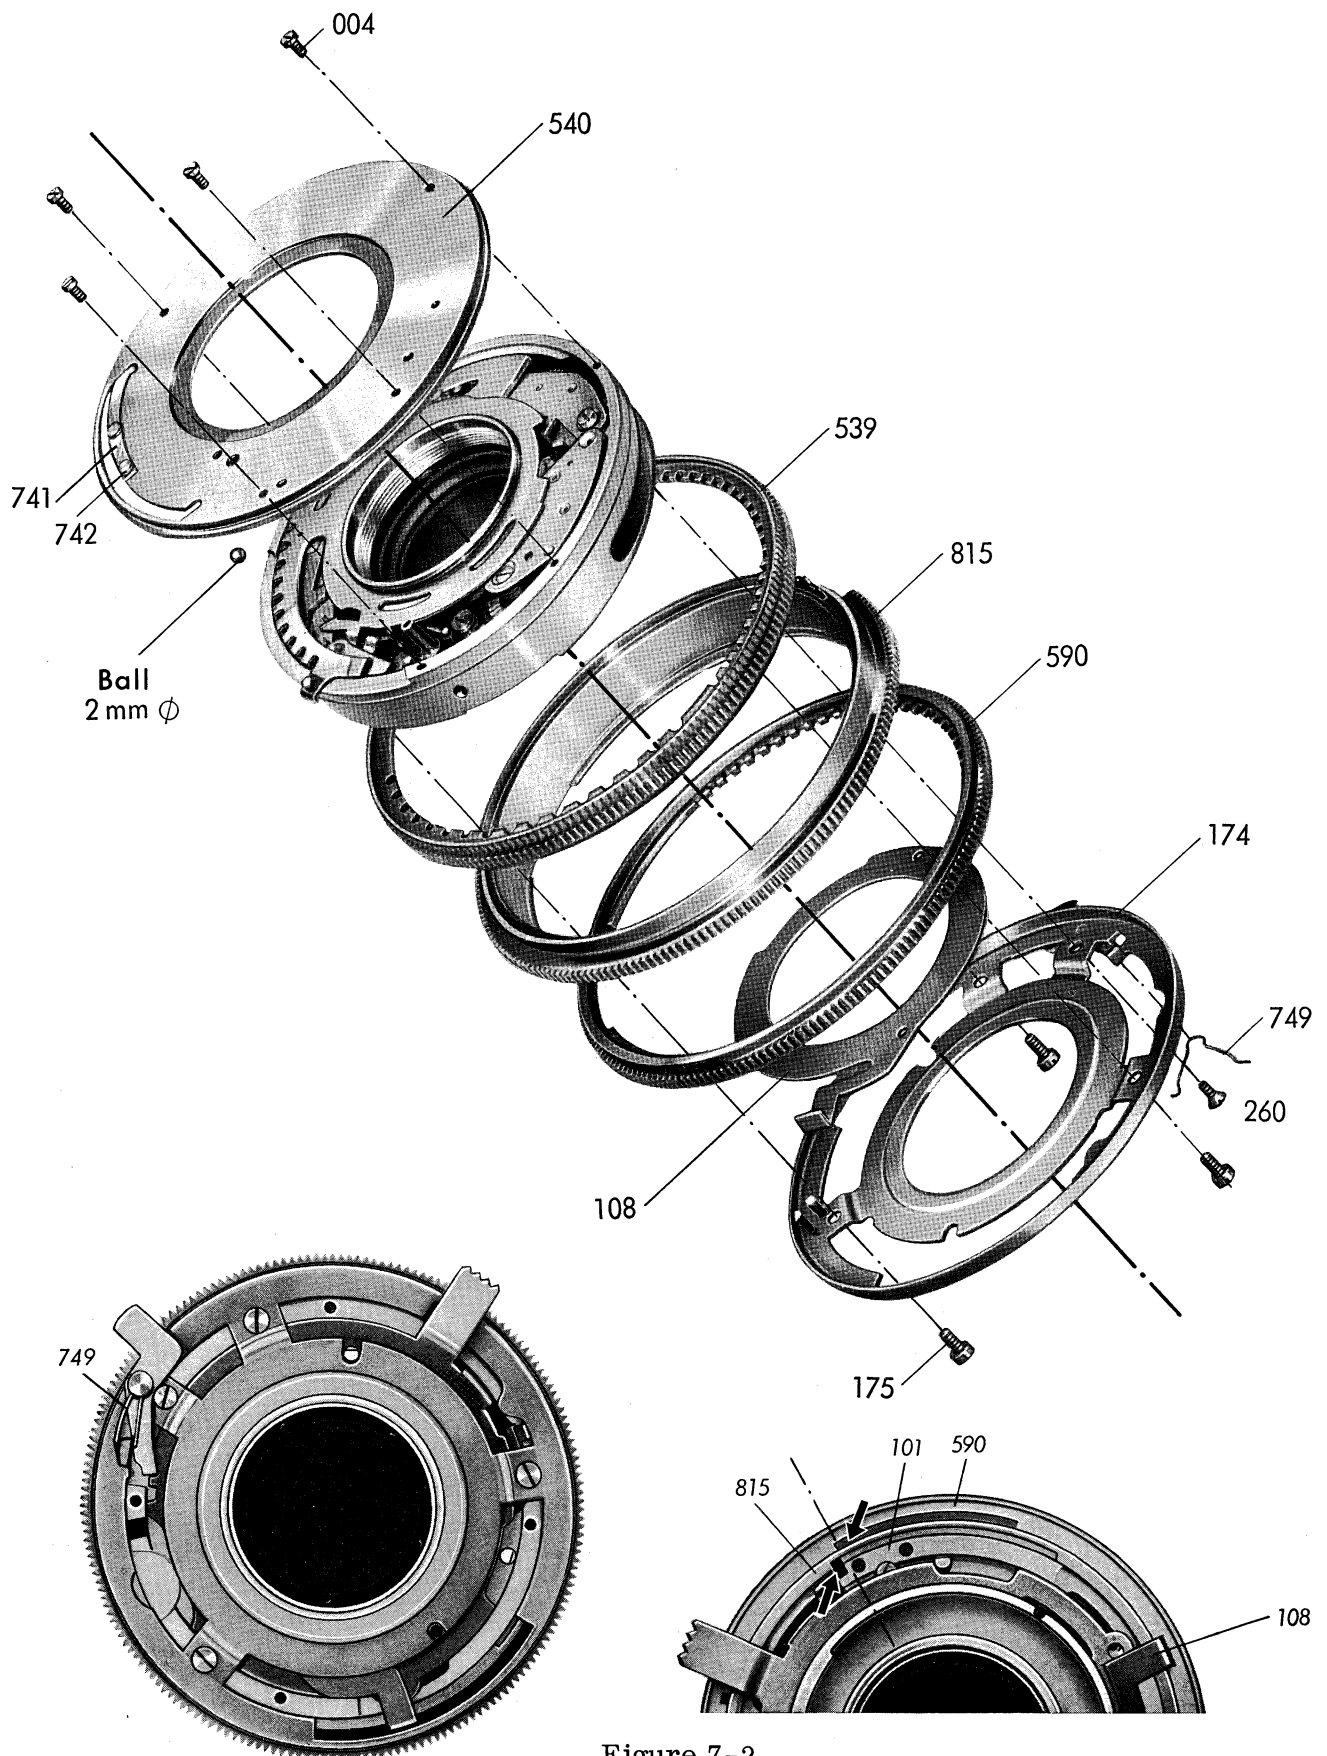

Figure 7-2
- B. EXPOSURE CONTROL RING: Smooth action and proper functioning of stops are insured by the design of exposure control ring 539. After replacing the cover plate, it may be necessary to adjust the ball stop spring so that, with smooth travel of the exposure control ring, slotted cam ring 522 (shown in Figure 7-2) engages efficiently.
- C. COVER PLATE, EXPOSURE CONTROL RING AND FLANGED INTERMEDIATE RING: When replacing cover plate 540, exposure control ring 539 and flanged intermediate ring 815, the vertical play of the exposure control ring must be checked. It should be between 0.03 mm and 0.08 mm. If there is too little play, the Planar guide surface for the exposure control ring on the cover plate must be machined down. If there is too much play, the cover plate also must be replaced and, if necessary, the above adjustment performed. See Figure 7-2.
- D. ASSEMBLY OF THE LIGHT-VALUE MECHANISM: (See Figure 7-2)
the recess is aligned with one edge of the housing groove, as in Figure 7-2, lower illustration, arrows.